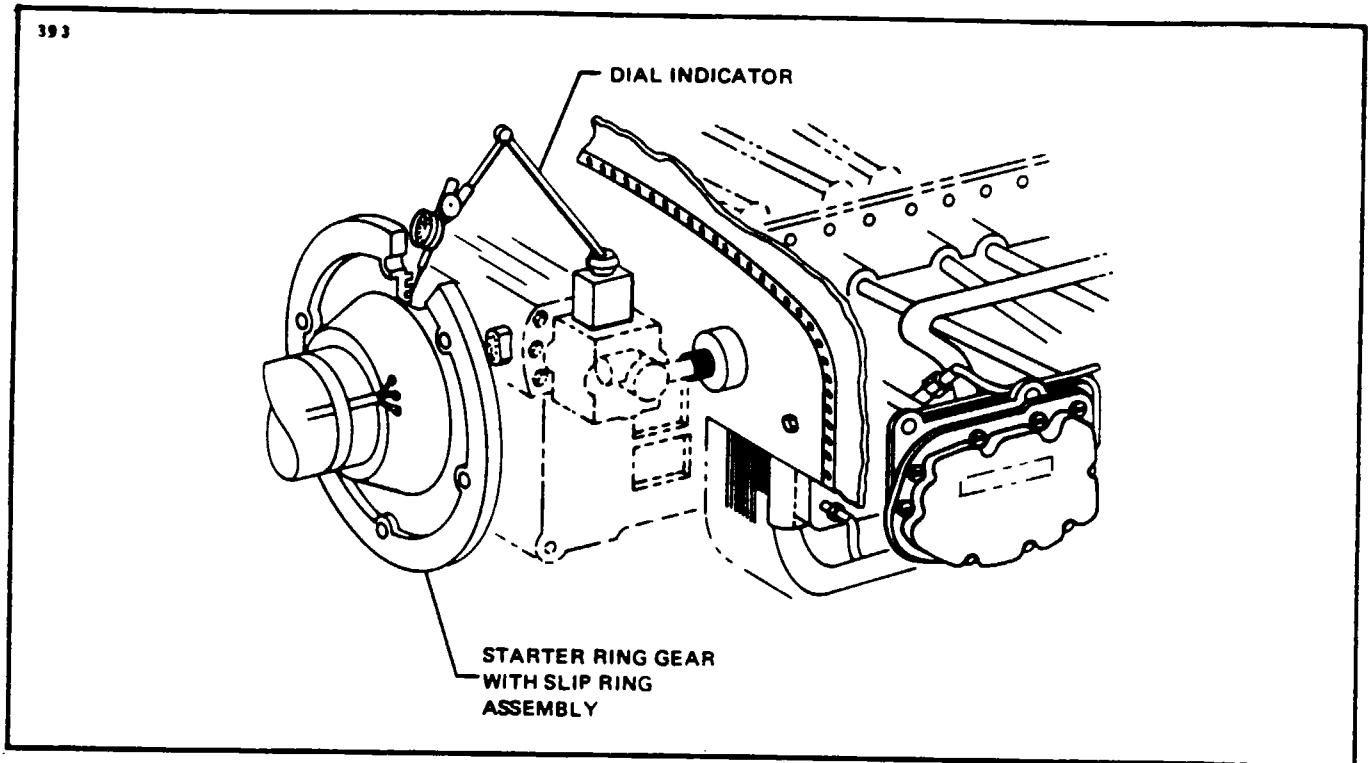

Figure 30-9. Typical Use of Dial Indicator
- B. If uneven wear is found or if wobble is noticed, set up dial indicator as shown in Figure 30-9 to check alignment of slip rings to propeller shaft.